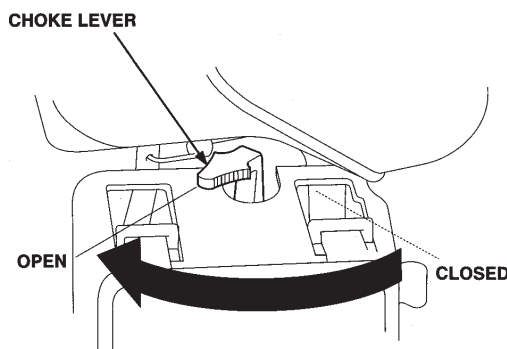

Figure 14. Choke Lever (Open)
7. If the engine has started, slowly return the choke lever (Figure 14) to the "OPEN" position. If the engine has not started repeat steps 1 through 6.